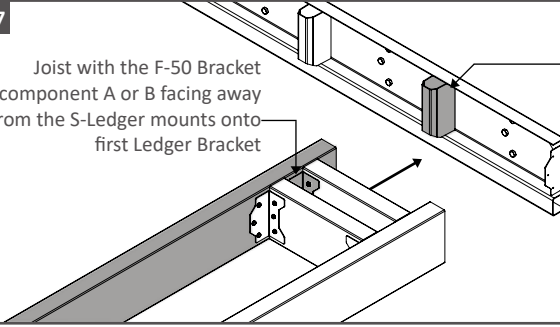

Fig. 58
3. Position the outside face of the End Joists flush with the edge of the Beam. As shown in Fig. 58.